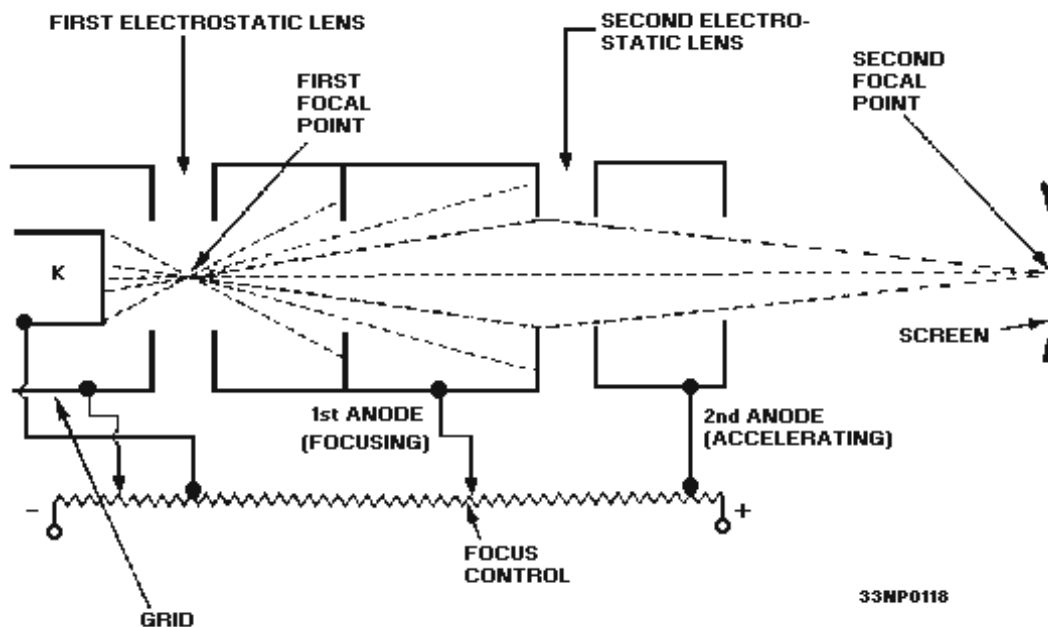

Figure 6-2.—Formation of an electron beam.
Figure 6-2 shows you how electrons move through the electron gun. The electrostatic field areas are often referred to as LENSES because the fields bend electron streams in the same manner that optical
Figure 6-2 also shows the relative voltage relationships on the electron-gun elements. The cathode (K) is at a fixed positive voltage with respect to ground. The grid is at a variable negative voltage with respect to the cathode. A fixed positive voltage of several thousand volts is connected to the second (accelerating) anode. The potential of the first (focusing) anode is less positive than the potential of the second anode. The first anode can be varied to place the focal point of the electron beam on the screen of the tube. Control-grid potential is established at the proper level to allow the correct number of electrons through the gun for the desired image intensity.